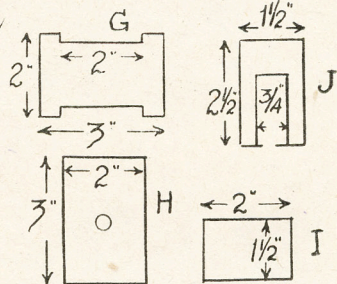

Fig. 3—Parts of the cabin
The cabin, from which the lifting gear is operated, is shown in parts at Fig. 3, made from the fretwood. The base is shown at (G), sides at (H), top at (I) and front at (J). In the centre of the sides bore a $\frac{3}{8}$ in. hole for the winding drum, a